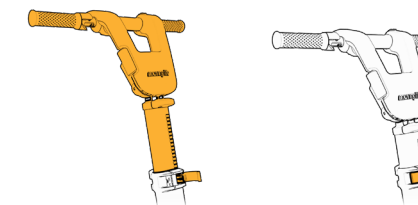

Figure 22 Driving Console height lever
Open the rod lever and hold it (1) while you adjust the height of the handlebar to your preferred level (2). Bring the lever back to the secure position once you're done (3) (see Figure 22).